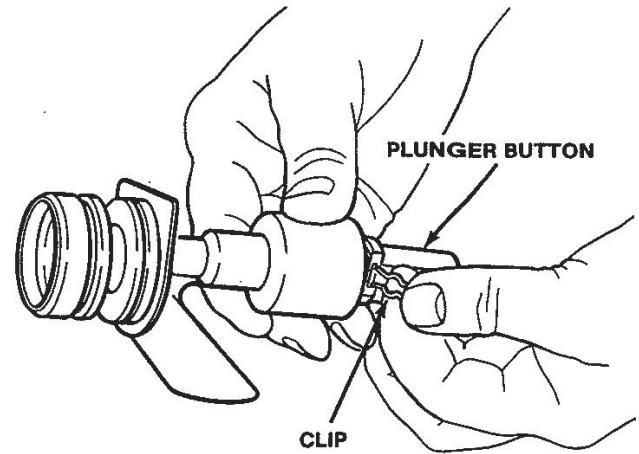

Figure 15. Removing Spigot Plunger Clip
3. Grasp the spigot in one hand and pull the spigot plunger clip out of the slot in the spigot plunger button (Fig. 15). Remove the clip, plunger button and spring from the spigot assembly.